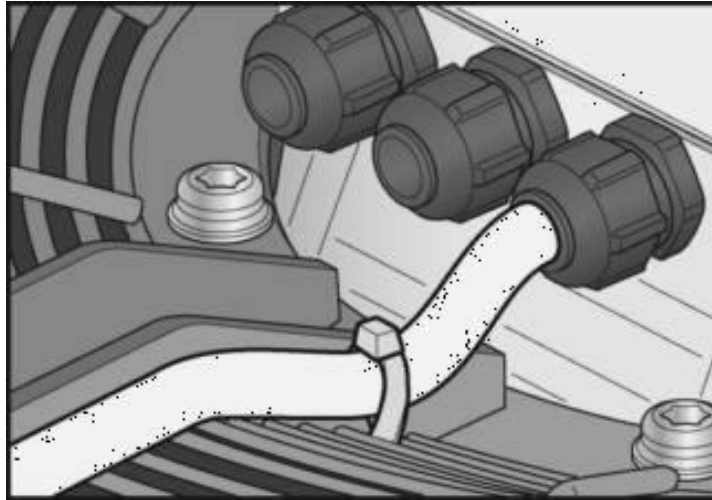

Figure 25. Fan and Motor Assembly Cable Routing
- Using zip cable ties secure cables to the fan and motor support channels. Ensure the cable is routed in a U-shape as shown in **Figure 25**.